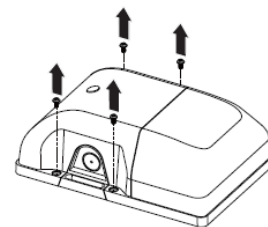

Fig. 1
- Unscrew the four front screws to gain access (see Fig. 1)